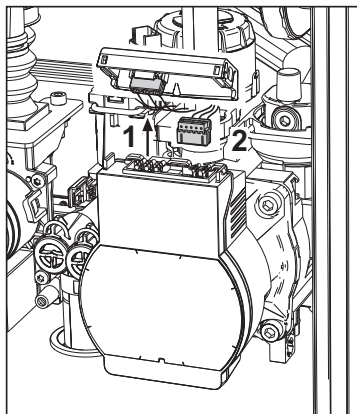

fig. 37
- Electrically disconnect the circulating pump, releasing the connections by raising detail "1" of fig. 37.